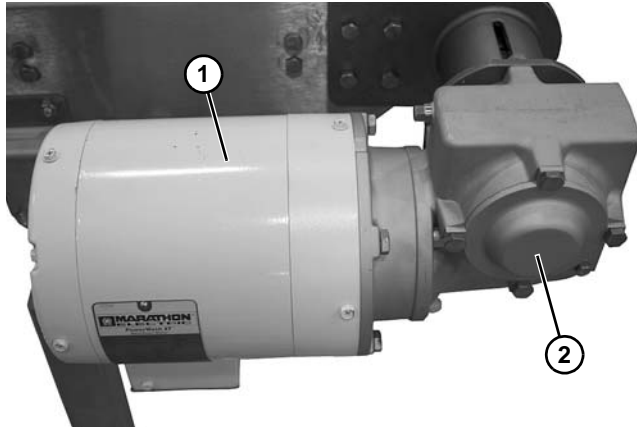

Figure 39
1. Attach the motor (**Figure 39, item 1**) to the gear reducer (**Figure 39, item 2**).